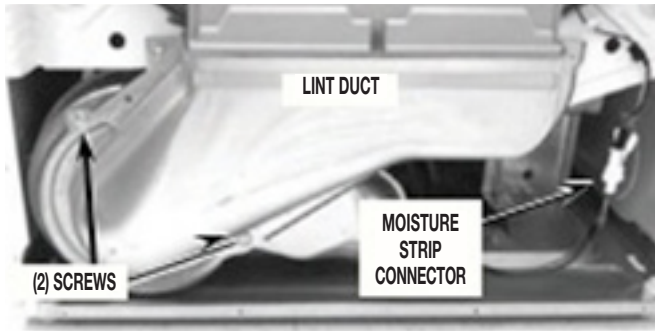

FIGURE 6
6. Disconnect moisture strip connector located in lower right front corner of the dryer. See *Figure 6*.
7. Remove the two (2) lower lint duct screws. See *Figure 6*.